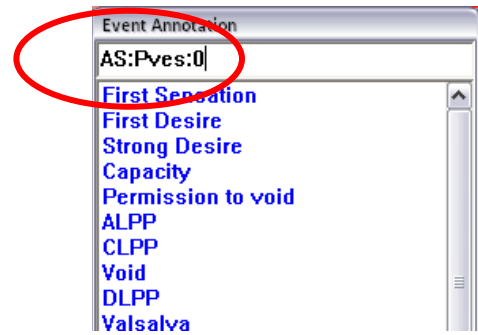

Figure 101: Event Annotation Window, "AS:"
3. Create the **Area Start** event by typing the format **AS:pressure channel:threshold value**. In this example AS:Pves:0 means that the area under the Pves curve above a threshold of 0 will be calculated (Figure 101).